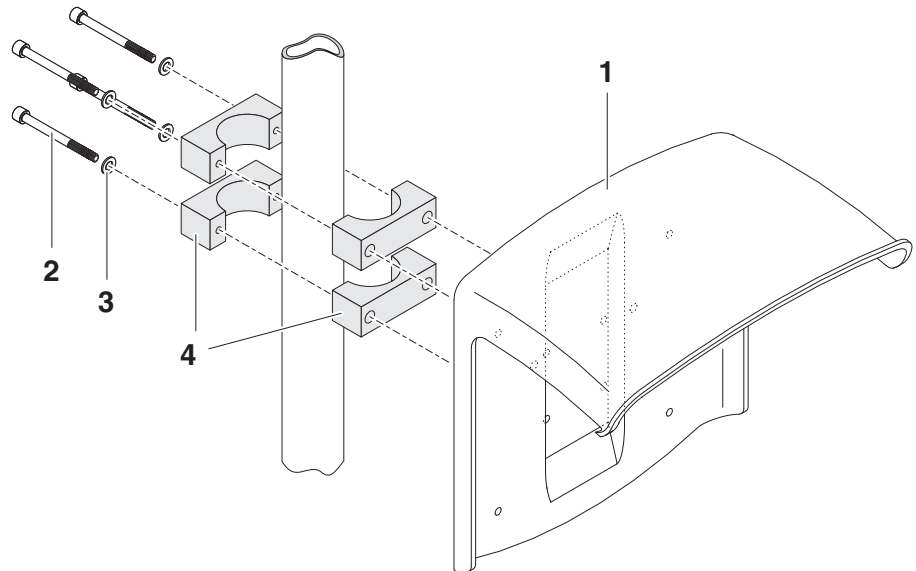

Fig. 3-20 Mounting the SSH/IQ sun shield on a mounting stand
- 1 | Screw the sun shield (pos. 1 in Fig. 3-20) with the four hexsocket head screws (pos. 2), the washers (pos. 3) and the clamps (pos. 4) at the required height on the mounting stand from the back.